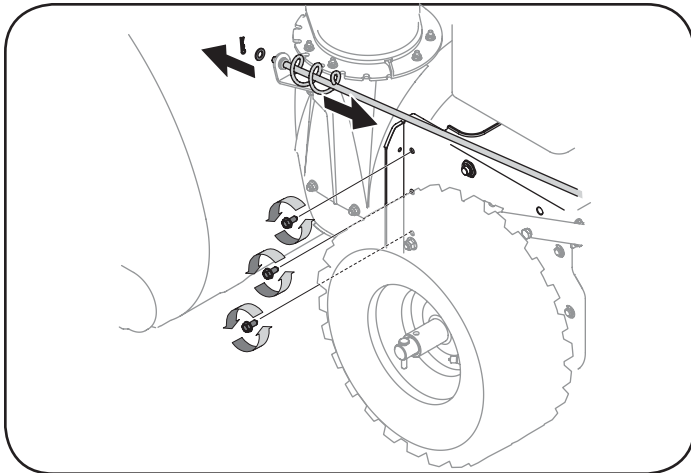

Figure 27
7. From both sides of the the frame assembly, use a 1/2" wrench to remove the three hex tap screws securing the frame to the auger housing assembly. See Figure 27.